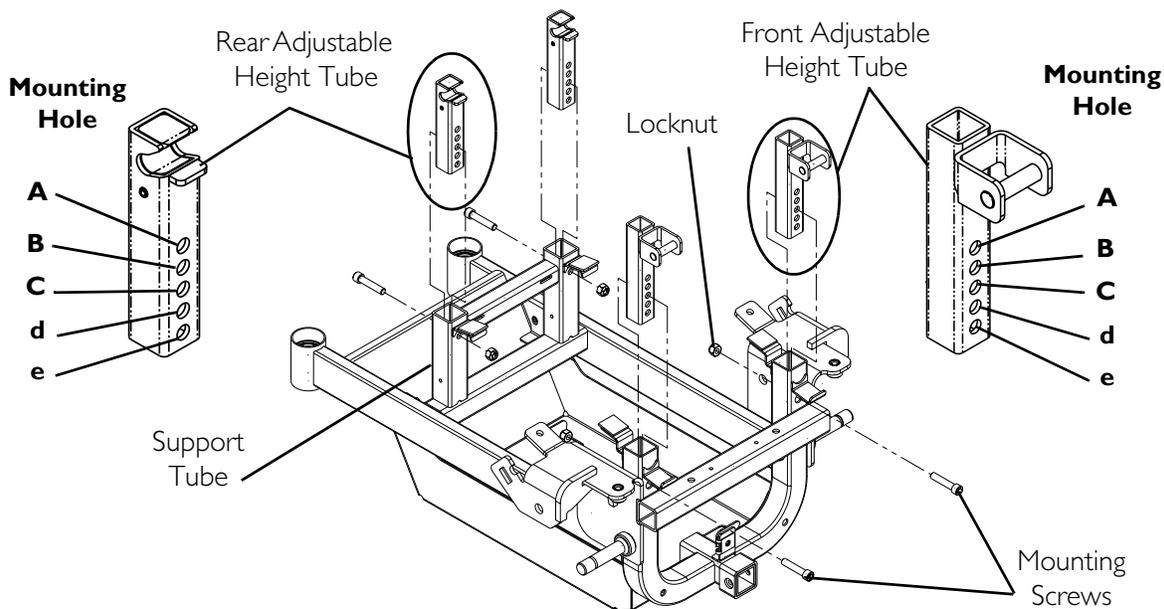

FIGURE 7.5 Adjusting the Seat Height
NOTE: For this procedure, refer to FIGURE 7.5.
- Reinstall mounting screw and locknut (FIGURE 7.5). Securely tighten.